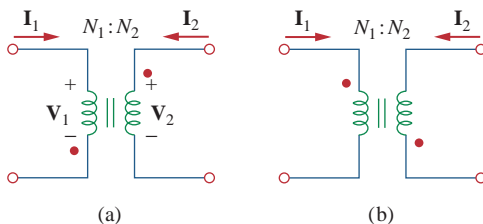

Figure 13.70
- 13.5** The ideal transformer in Fig. 13.70(a) has $N_2/N_1 = 10$. The ratio V_2/V_1 is:
- 13.6** For the ideal transformer in Fig. 13.70(b), $N_2/N_1 = 10$. The ratio I_2/I_1 is: